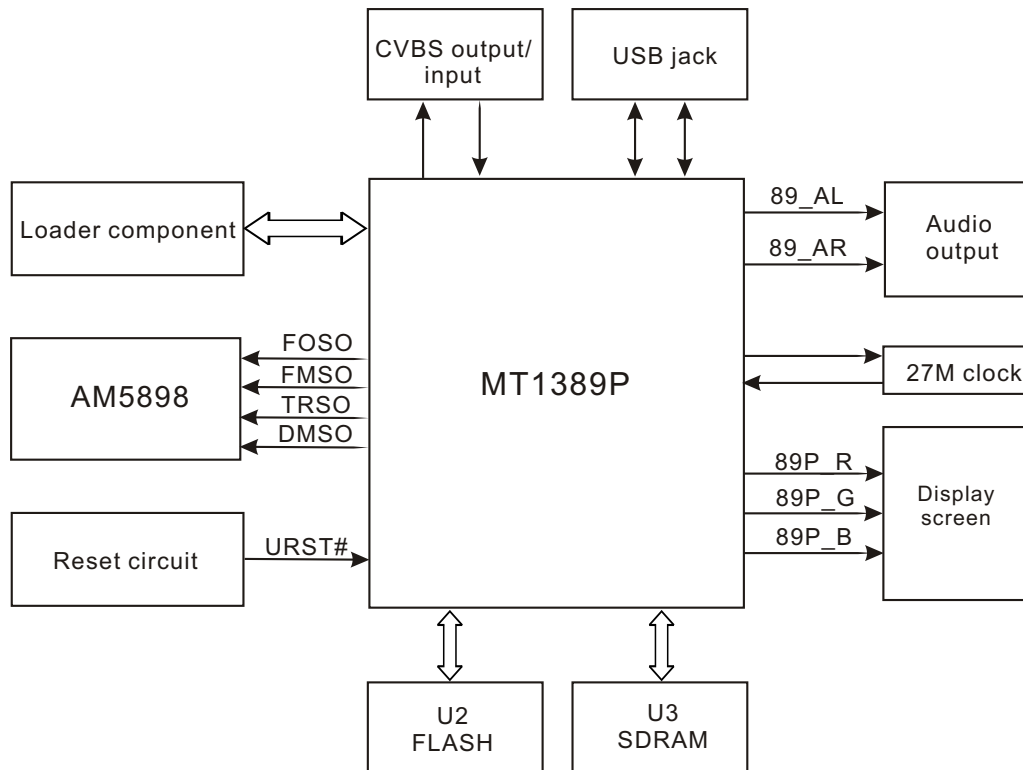

Figure 3.2.2.1 Block diagram of decode circuit
1.Block diagram of decode circuit, shown in figure 3.2.2.1: